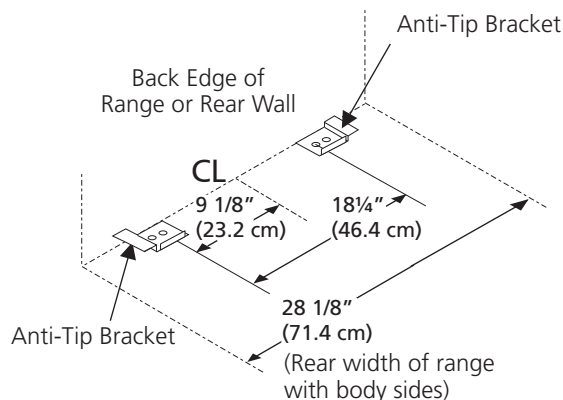

Figure 15
1. Unfold paper template and place it flat on the floor with the back and side edges positioned exactly where the back and sides of range will be located when installed. (Use the diagram below to locate brackets if template is not available (Figure 15)).